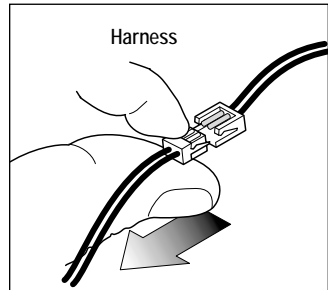

Figure 4. Wire harness separation
2. Reach into the front of the car and unplug the wire harness from the light panel. Pull on the white housing, not the wires themselves. Refer to Figure 4.
3. Unplug the wire harness from the light panel at the front end of the car (the end with the smaller windows on the sides). This is illustrated in Figure 4. Be careful to pull on the white housing, not the wires.
3. Unplug the wire harness. Pull on the white housing, not the wires themselves. Refer to Figure 4.
4. Pull the white harness away from the opening under the stairs between the metal frame and plastic floor. Disconnect the plug from the socket. Pull on the white housing not the wires themselves. Refer to Figure 4.